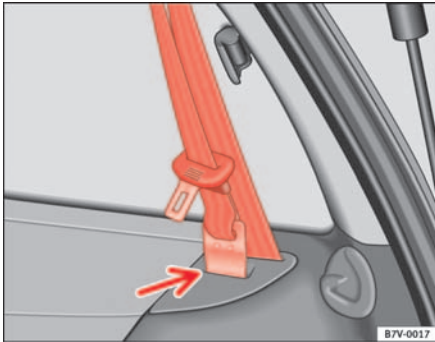

Fig. 19 Storage for the detached seat belt
- Guide the seat belt with the spring hook up and hang the spring hook in the retainer ⇒ **fig. 19 -arrow-** in the side trim.